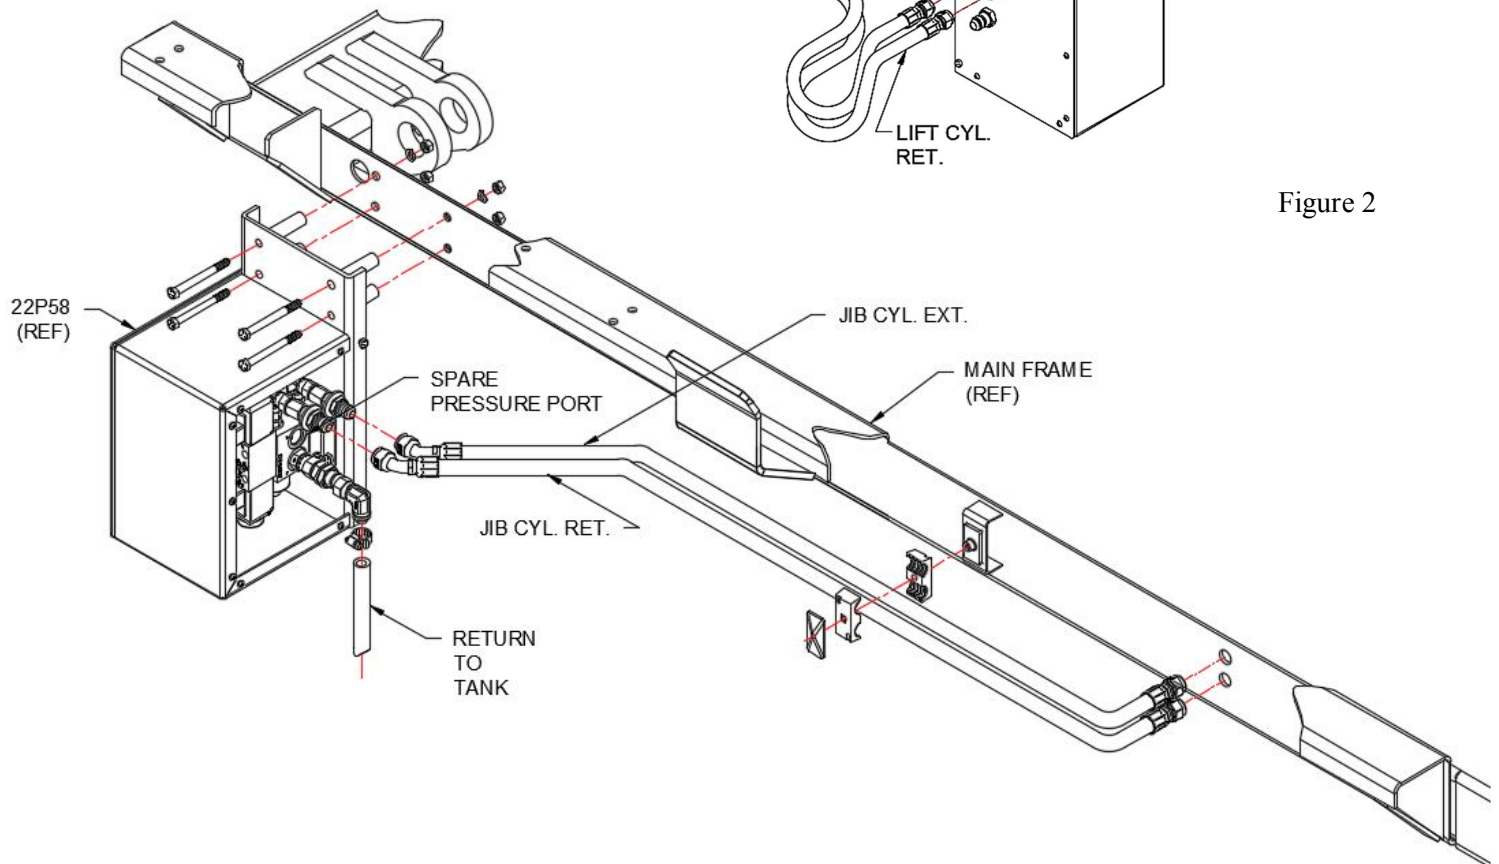

Figure 1
- 2.) Mount the 22P58 EHV to the hoist mainframe and attach all hoses, hose clamp assemblies and fittings as shown on drawing 91H22, 91H23 & 91H28 (also see Figures 1 & 2).